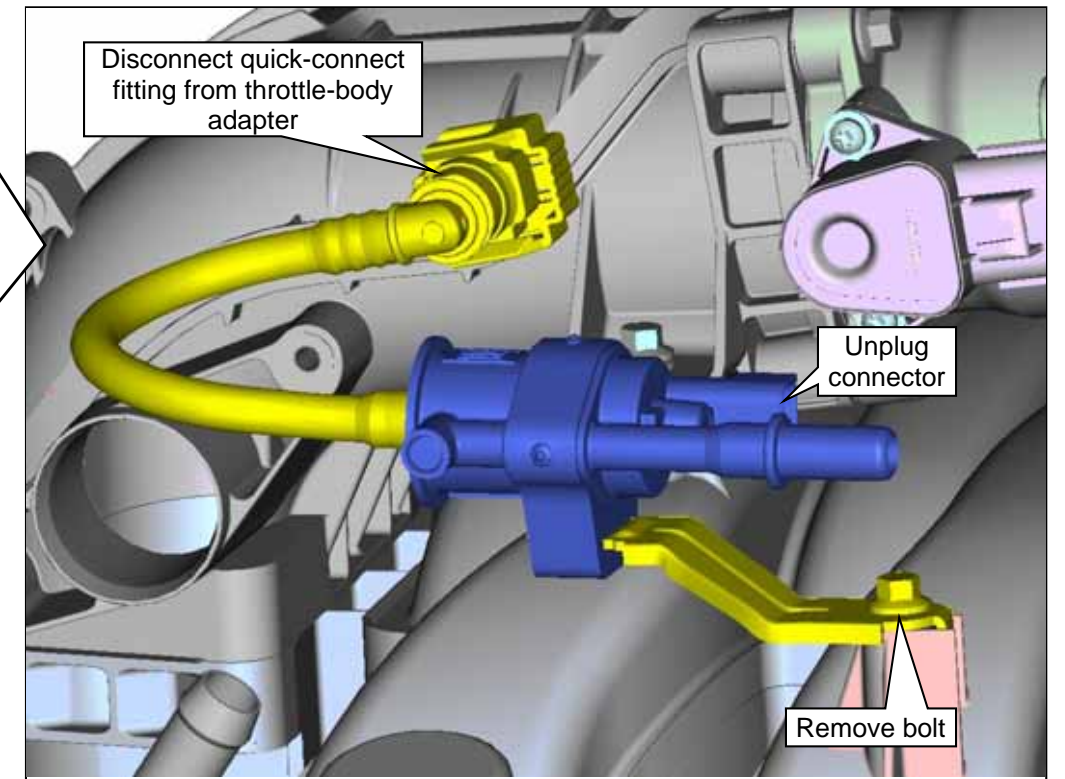

Figure 6.2
3. Disconnect the VMV hose quick-connect fitting from the throttle body adapter. **Figure 6.2.**
4. Remove the bolt securing the bracket and remove the VMV assembly (hose, VMV and bracket) for modification. **Figure 6.2.**